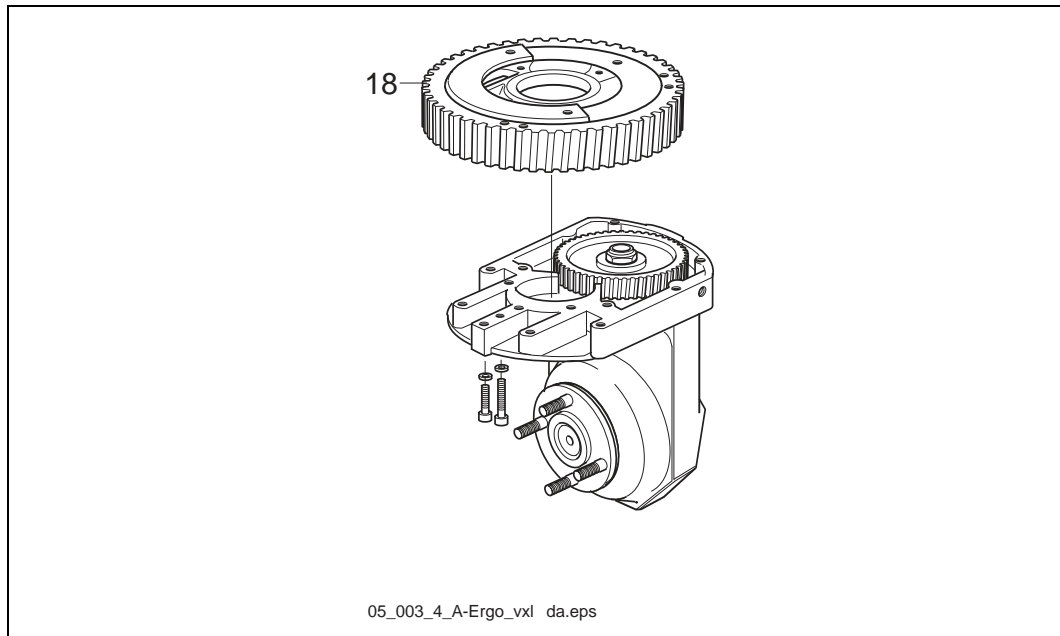

Figure 5.5 Fit the guide wheel.
5. Fit the guide wheel (see figure 5.5)